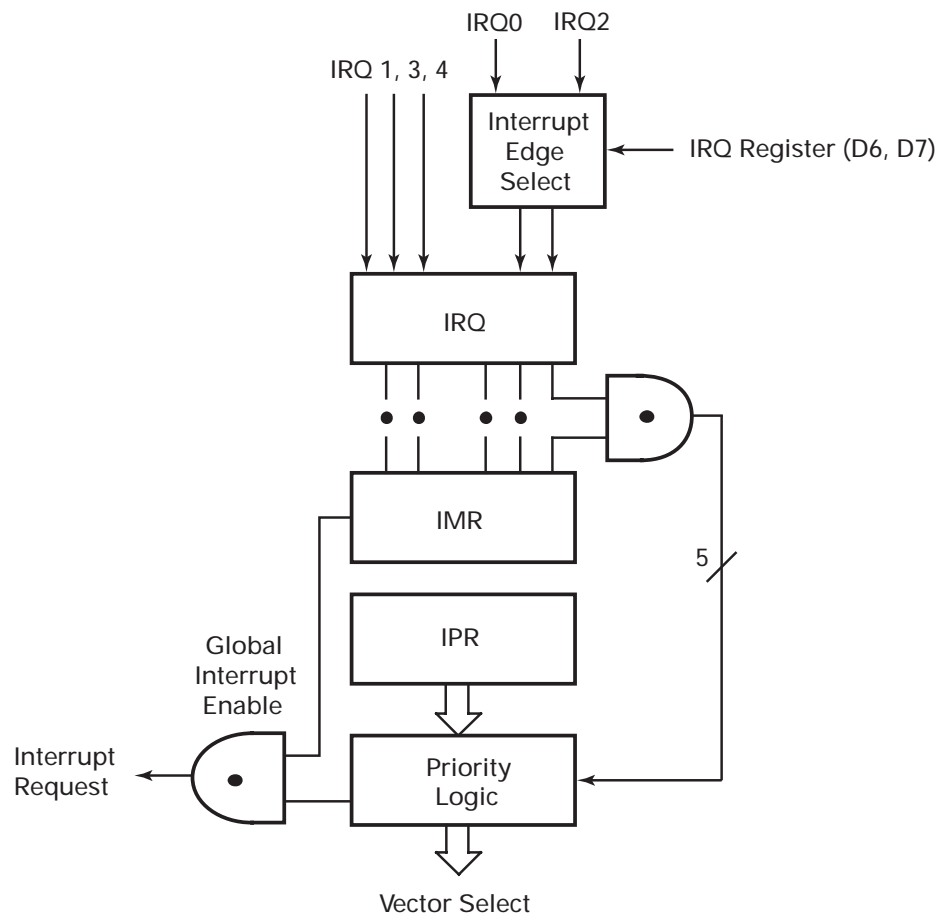

Figure 5. Interrupt Block Diagram
**Interrupts:** The Z8 features five different interrupts. The interrupts are maskable and prioritized (Figure 5). The five sources are divided as follows: three sources are claimed by Port 3 (lines P33–P31), while the remaining two are held by the counter/timers (Table 1). The Interrupt Mask Register globally or individually enables or disables the five interrupt requests.